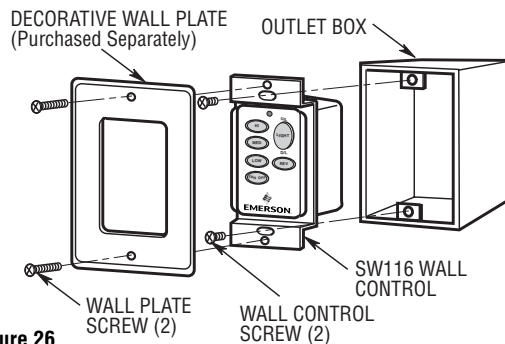

Figure 26
3. Install the wall control onto the outlet box using the supplied screws (Figure 26).
4. Install decorator wallplate (not included) using the two screws provided with the wall plate. Leave wall control in "OFF" mode until fan installation is completed (Figure 26).